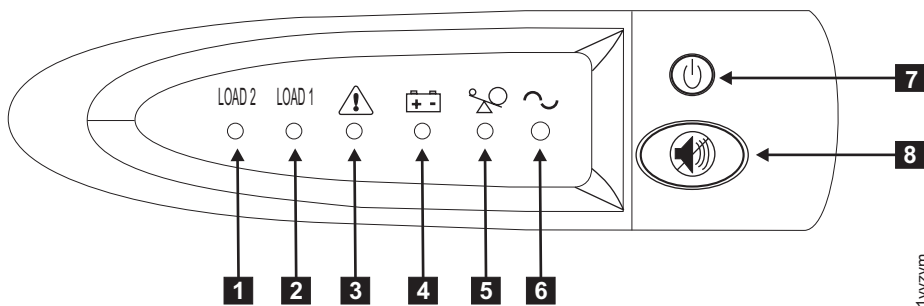

Figure 33. 2145-1U uninterruptible power supply front panel assembly
8. Press and hold the on/off button (**7** in Figure 33) for approximately five seconds. You might need a pointed device, such as a screwdriver, to press the on/off button. The front panel indicators cycle through a startup sequence while the 2145-1U uninterruptible power supply conducts a self-test.